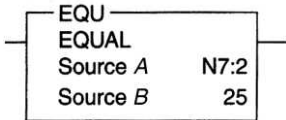

Figure 10-15 Instruction for question 27.
27. What value(s) stored in N7:2 of Figure 10-15 would make this instruction true? 27. _____